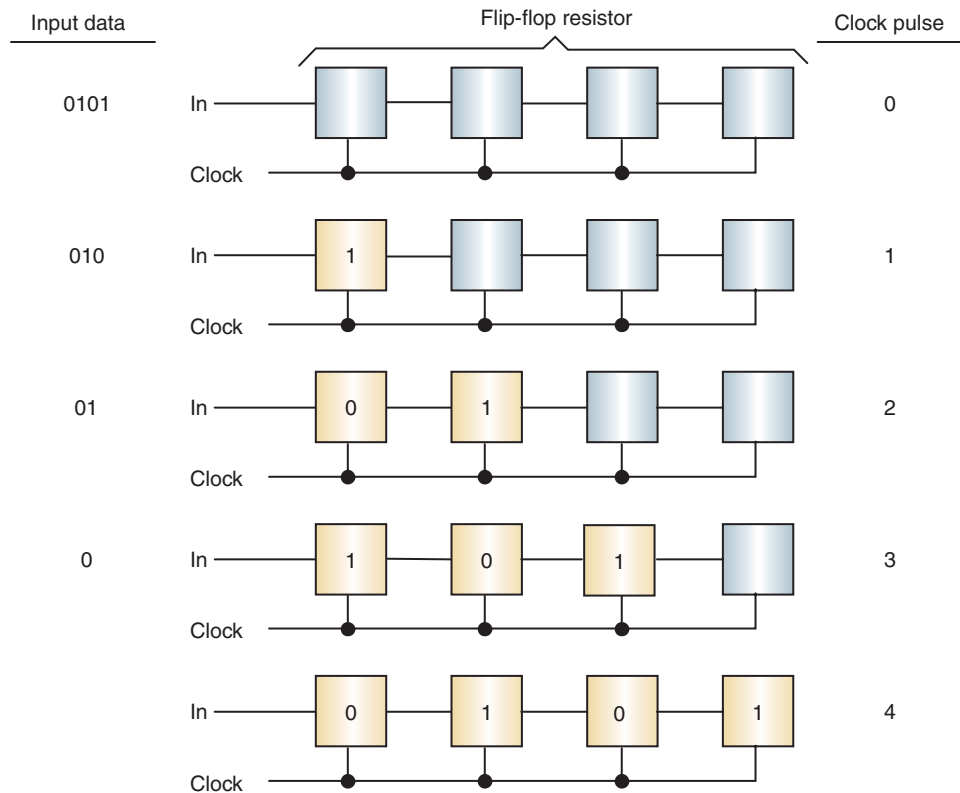

FIGURE 9-22 It takes four clock pulses to load 4 bits into the register.
6. **Registers:** A register is a combination of flip-flops that transfer bits from one to another every time a clock pulse occurs (Figure 9-22). It is used in the computer to temporarily store information.